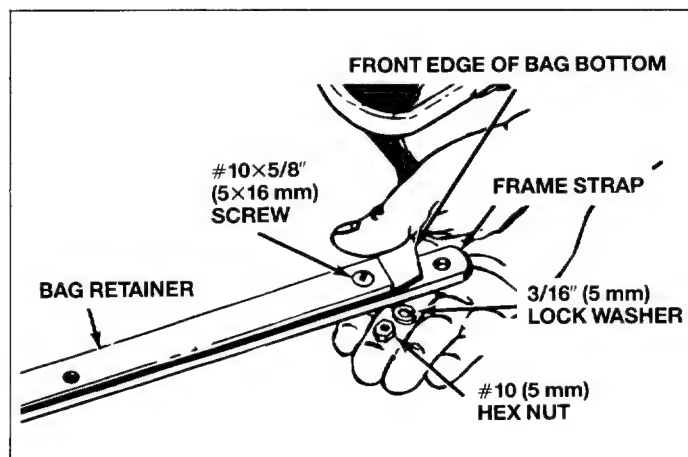

Fig. 18
8. Assemble the bag frame strap (bottom) and bag retainer (top) to the front edge of bag bottom. Place the bag retainer on top and frame strap on bottom. Secure with six $\#10 \times 5/8"$ (5×16 mm) slotted screws, $3/16"$ (5 mm) lock washers and $\#10$ hex nuts (5 mm). See figure 18.